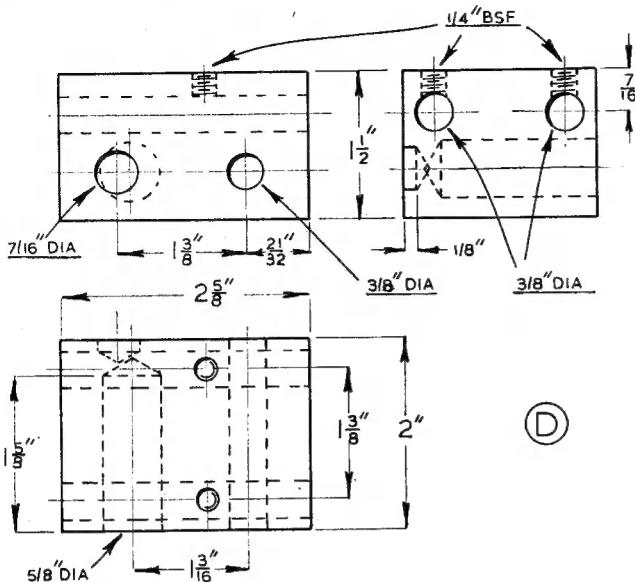

Fig. 8. Details of the bending-head
*Operation 1.* A piece of rectangular bright mild-steel is supplied for making this component to the drawing, Fig. 8, and the first step is to prepare the material for machining by filing all surfaces to remove burrs.
The drawing, Fig. 8, shows these  $\frac{1}{8}$ -in. holes to be blind-ended, but in the modification these holes have been machined clear through, so that, firstly, the lever can be withdrawn into the machine to enable it to take up a small space when packed away, and secondly, what is more important, the bending head can then be used as a jig for drilling and reaming the sliding stud *H*.